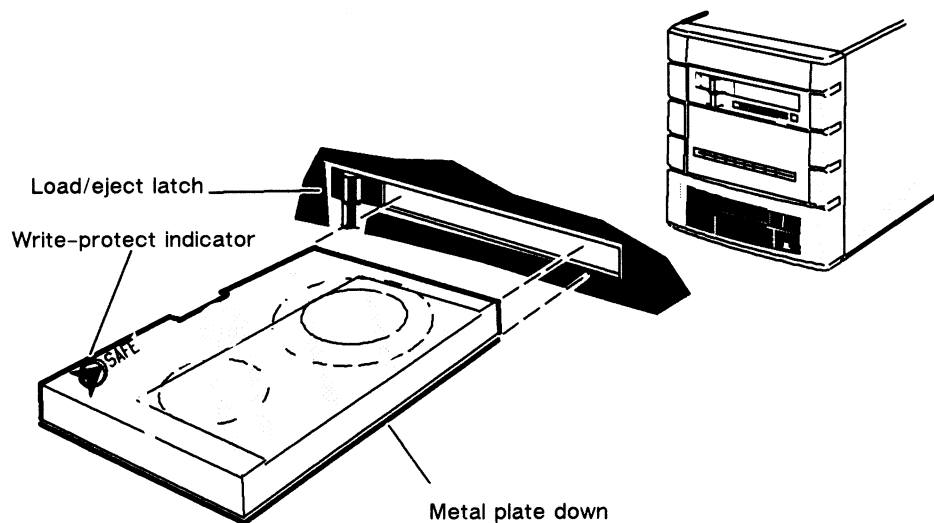

Figure 1-12 Inserting a Cartridge Tape into a Peripheral Housing Unit (PHU)
3. Hold the cartridge tape with the metal plate facing *down* and the write-protect indicator in the *bottom left* corner, as shown in Figure 1-12.